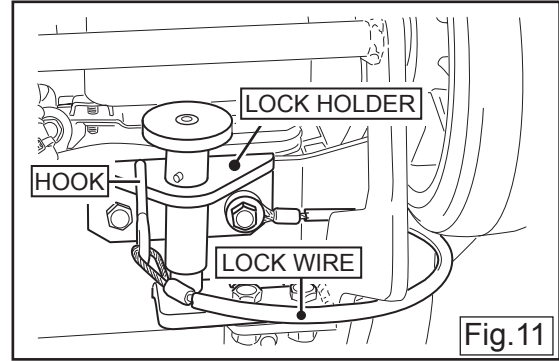

Fig.11
- With the lock wire coming at the back side of the axle, put the hook at the end on the lock holder hole. (Fig. 11)